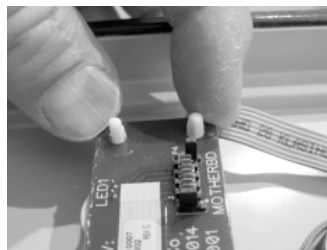

Figure 12 - Press the Indicator Board partially down on its supports
b. Using two fingers as shown in Figure 12, gently press one end of the board partially down onto the supports.